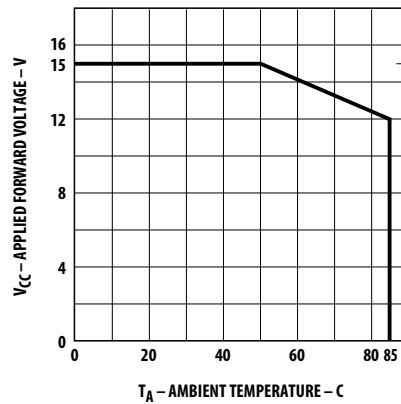

Figure 4. Maximum allowed applied forward voltage vs. ambient temperature $R\theta_{JA} = 175^{\circ}\text{C/W}$. 12 volt devices.
3. Derate from T_A = 50°C at 0.086 V/°C, see Figure 4.